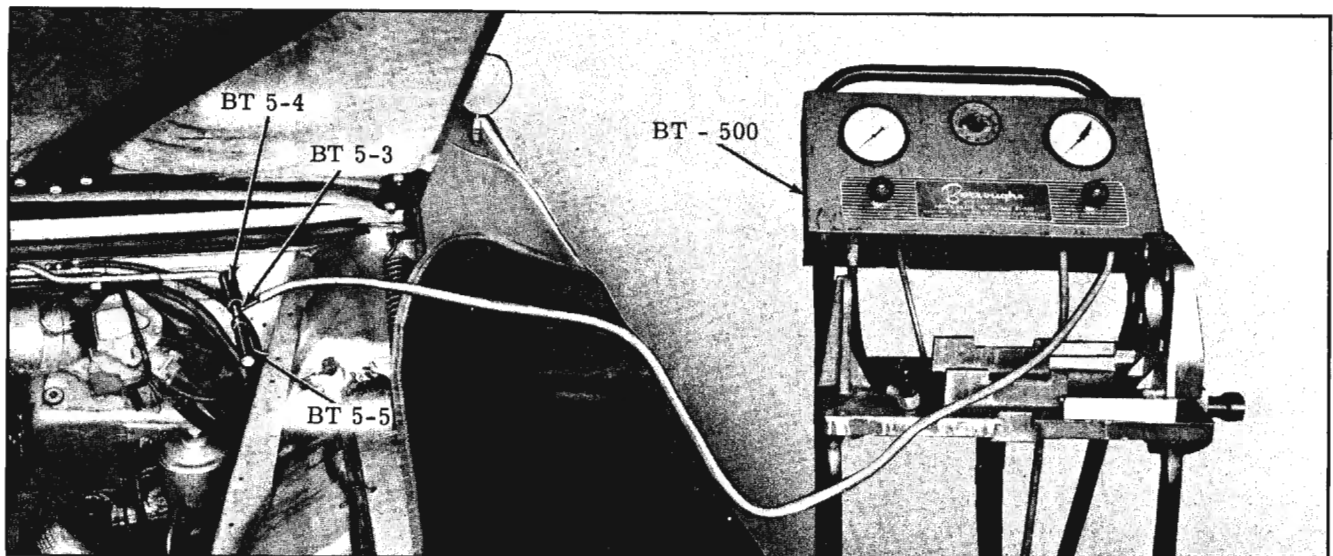

Fig. 7-139 Testing Vacuum System (Less Power Brake Unit)
1. Connect test hoses as shown in Fig. 7-139.